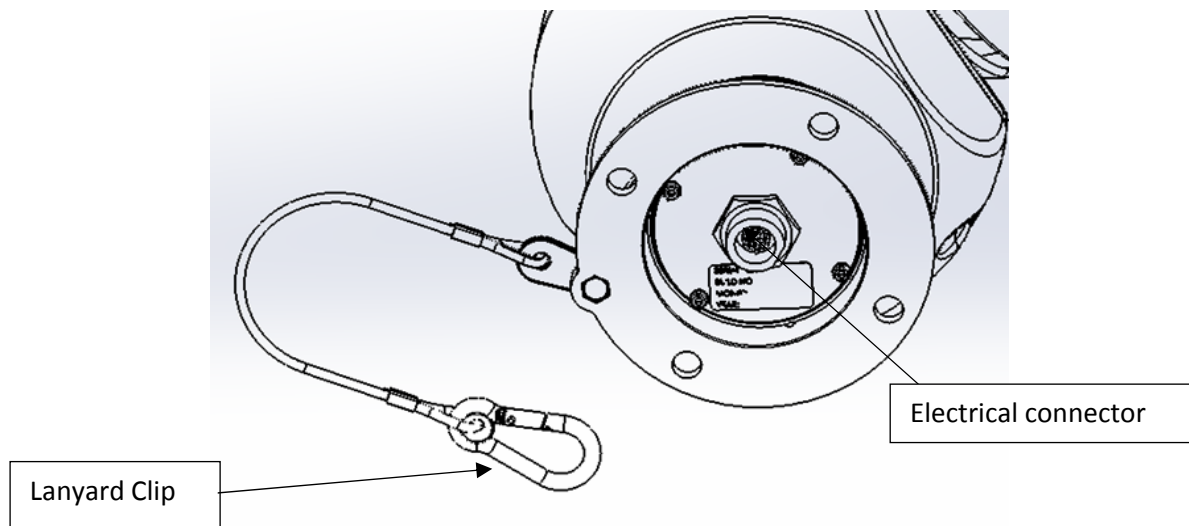

Figure 13 Position of electrical connector in base of PTZ Unit
2. A lug should be provided at the mounting point to which the maintenance lanyard can be attached during installation. See Figure 13 & 14.